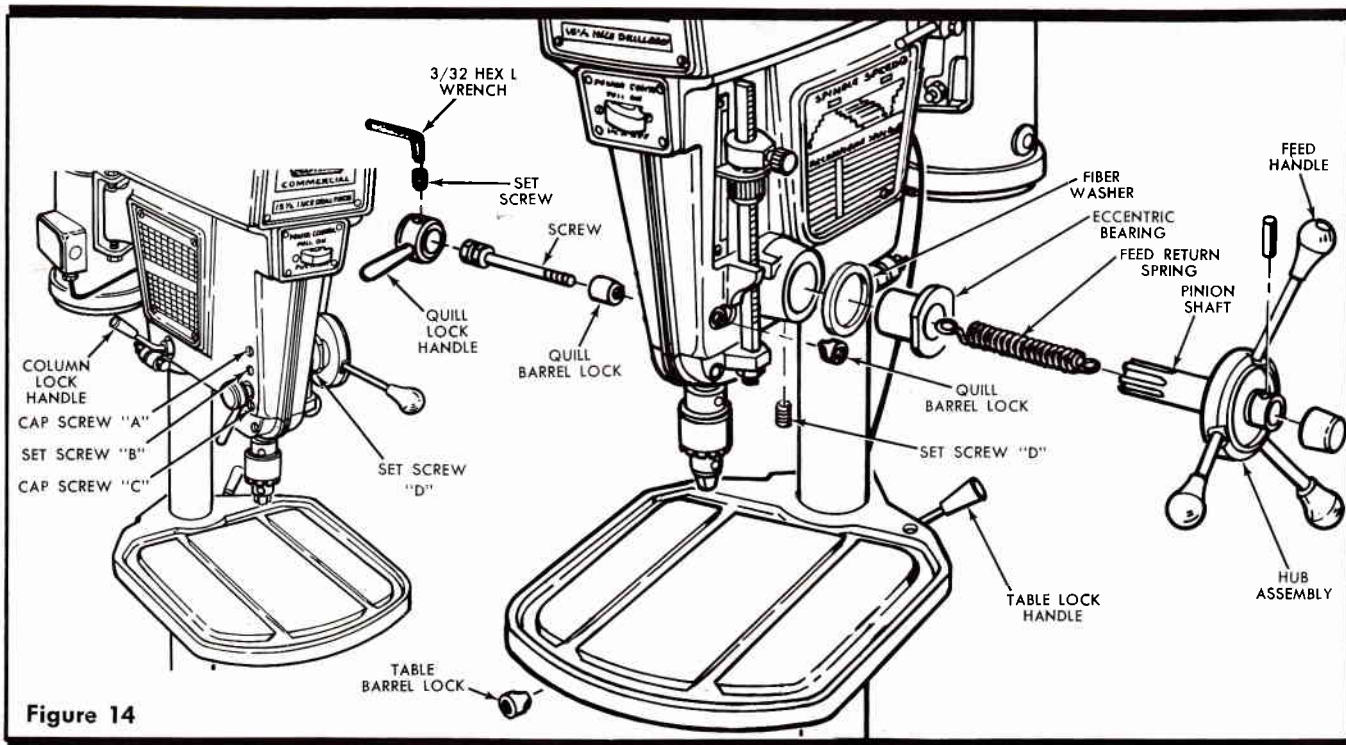

Figure 14
To change the locked position of table lock handle or drill press head lock handle, unscrew the handle from barrel lock and rotate barrel lock 180°. Re-insert the lock and tighten lock handle (See figure 14).
This handle can be adjusted by loosening the set screw with a 3/32 hex-L wrench and rotating to any desired position (see figure 14).
QUILL BEARING ADJUSTMENT (see figure 14).
2. Loosen eccentric bearing set screw (D figure 14) using a 5/32 hex L wrench.
5. Loosen the two cap screws (A&C figure 14), using a 1/4 hex L wrench.
6. Loosen the set screw (B figure 14) using a 5/32 hex L wrench. Adjust by using either sequence "A" if quill is tight or "B" if quill is loose.
Lock spindle with quill lock handle and loosen set screw (D figure 14). Using a channel lock type wrench turn eccentric bearing one way or the other until it binds then back-off until it is free and has minimum backlash throughout the full length of the quill travel (or stroke). Retighten set screw (D). Do not overtighten. Overtightening may lock pinion shaft.
After proper adjustment of quill bearing and pinion backlash if the automatic feed return fails to return the quill to the top of the stroke, or if the action is sluggish, the feed return may be adjusted as follows: (See Figure 14).
4. In order to maintain smooth operation of pinion, pull pinion shaft (Figure 14) out and lubricate occasionally with cup grease.